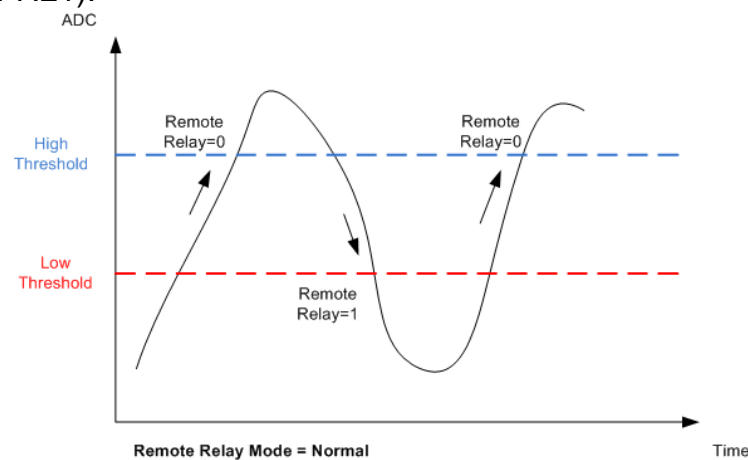

Figure 7.21. Controlling remote relay when **Remote Relay Mode** parameter is "Normal"
- *Normal* - when the rising analog input value crosses the **High Threshold**, the remote relay (digital output) will be OFF (0). When the falling value crosses the **Low Threshold** the remote relay (digital output) will be ON (1) (Figure. 7.21).